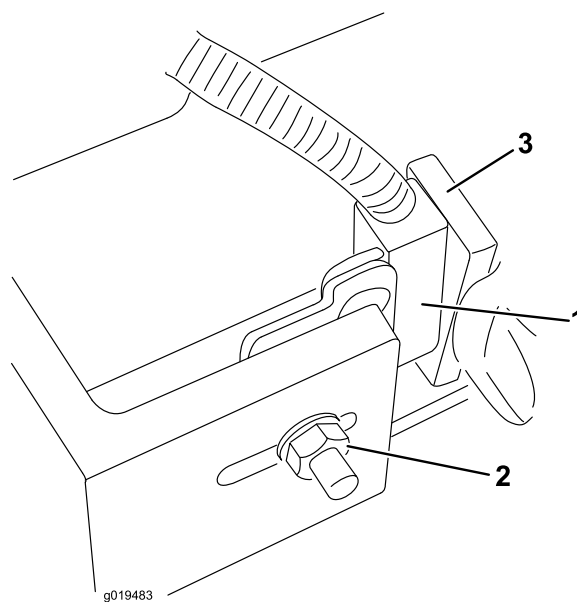

Figure 87
- Loosen the carriage bolt nut securing the lift arm switch bracket to the #4, 6 or 7 lift arms (Figure 87).